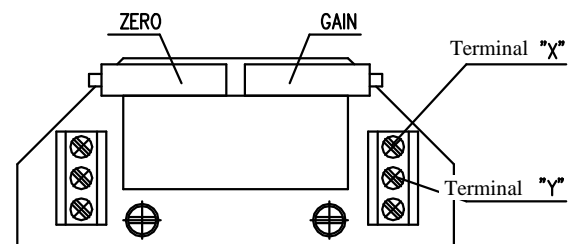

Fig. 8
4.4.2 EPV – 3-wire version (Fig. 8,8a)
- Adjust the resistive transmitter according to the previous chapter. The resistance is to be metered on the terminals X-Y (Fig. 8,8a). The used transmitter resistance is 2000W or 100 Ω.